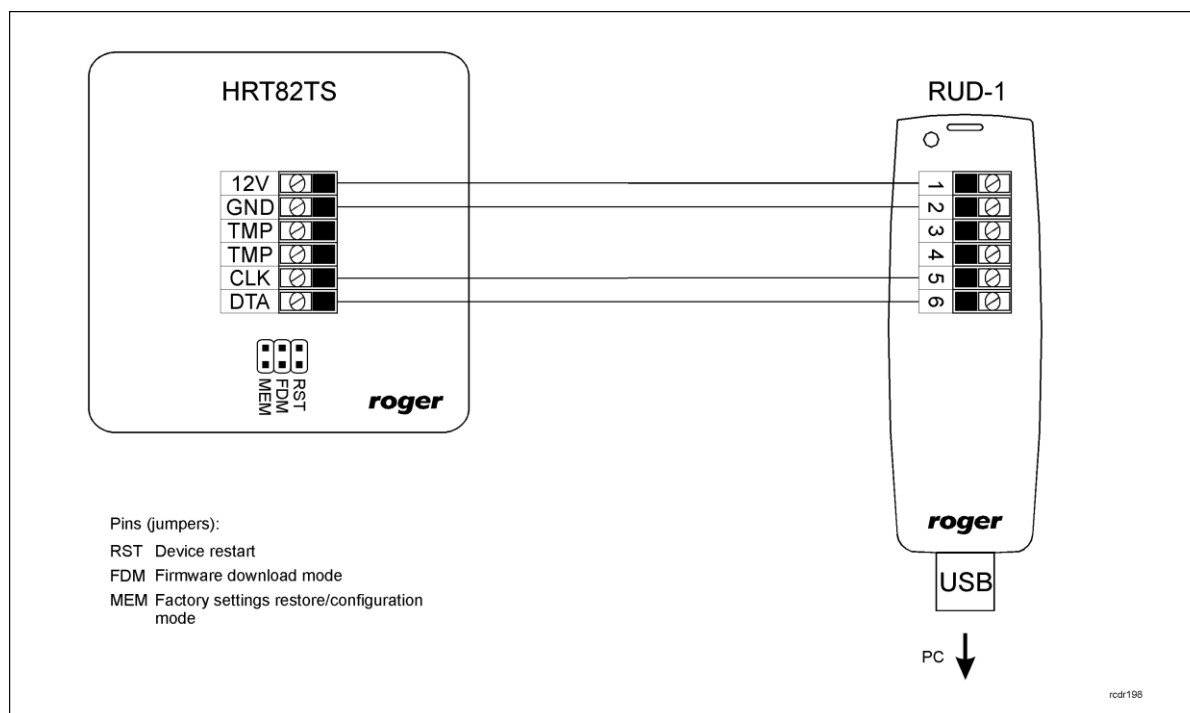

Fig. 5 HRT82TS and RUD-1 connection
1. Connect device to RUD-1 communication interface according to fig. 5